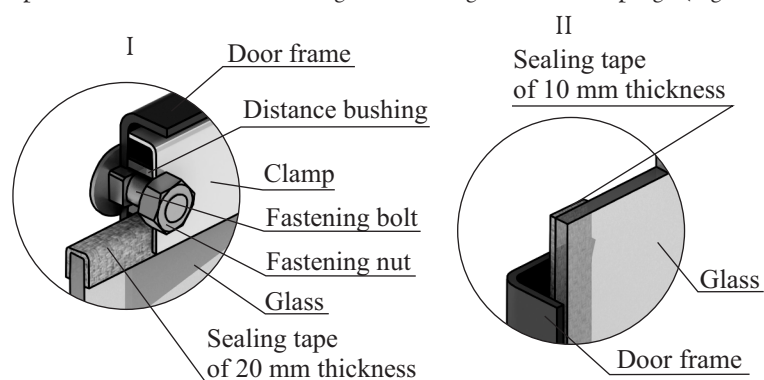

Figure 9. Fastening of translucent screen of the «Vitra» model door
1. Unscrew two nuts fixing the clamp (fig.9.I), and disassemble it and distance bushings.
3. Take new glass and if it doesn't have thread sealing tape stick them: tape of 20 mm in width is stuck from the top and from below the glass, in a «П» shape (fig. 9.I), tape of 10 mm in width is stuck vertically, along the lateral sides of the glass (fig. 9.II).
4. Insert the glass into the stop, at that the tape stuck from the lateral sides (vertical) shall be pressed between the glass and the door frame (fig. 9.II).
ATTENTION! Nuts fastening the clamp are screwed to the mounting bolts through the remote plugs (Figure 9.I).